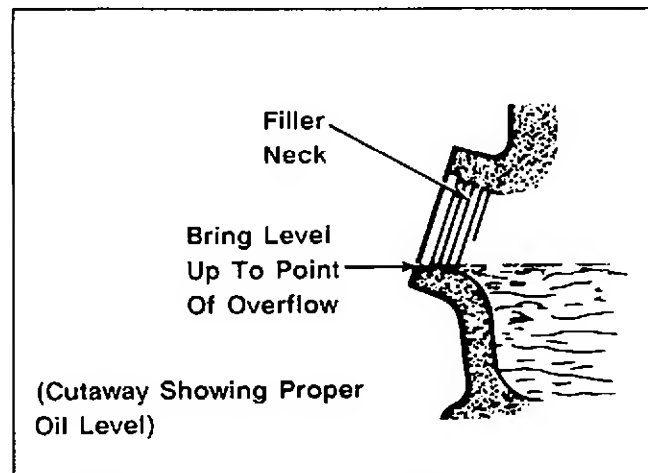

Figure 6-4. Proper Oil Level On CH6 Engine.
4. If the level is low, bring it up to the point of overflowing the filler neck as shown in Figure 6-4. Refer to "OIL TYPE" on page 6.1 for correct type of oil to use.